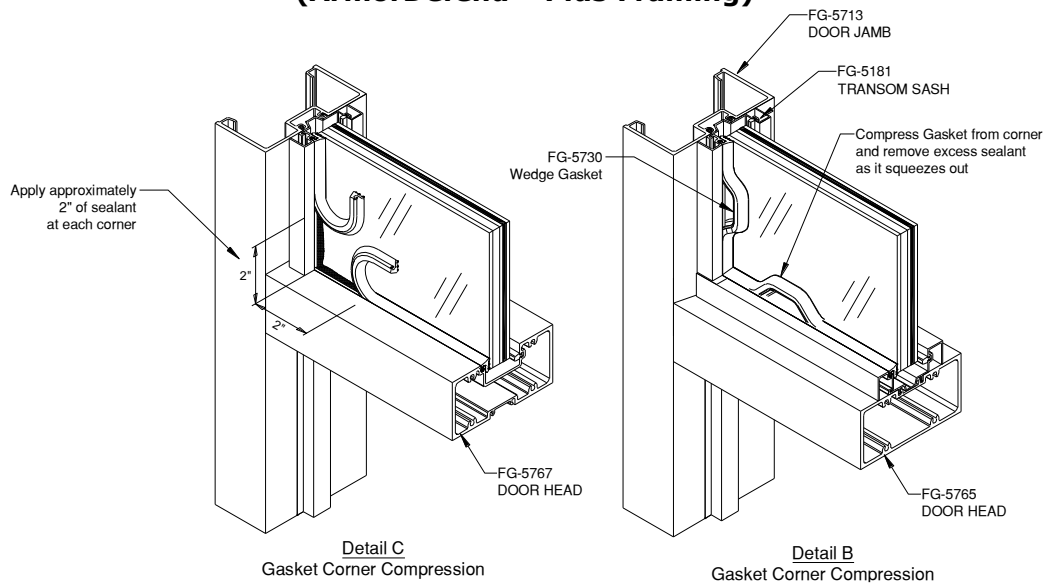

Figure 35: Exterior Gasket Installation, ArmorDefend™ Shown
- 13.1.2.13 After Gaskets are pressed into place, pull Gasket from pocket at corners as shown in *Figure 35, Detail A*. Clean glass and gaskets a minimum of 2" from each end with isopropyl alcohol.
- 13.1.2.14 Apply sealant and push Gasket into reglet, compressing from the corner first, *Figure 35, Detail B*. Clean squeeze out immediately.